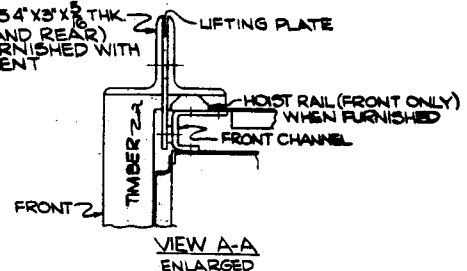
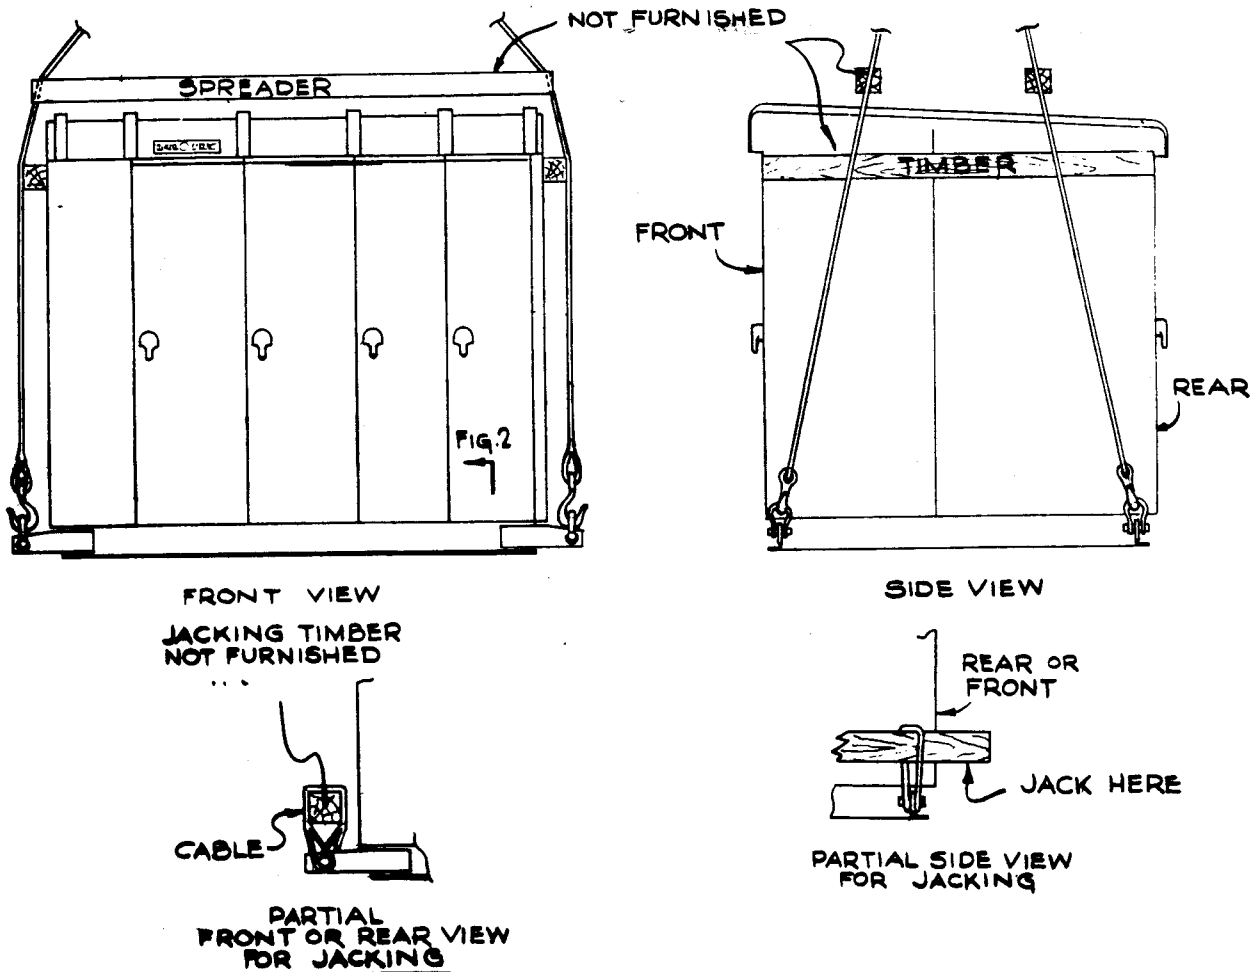

Fig. 9 (0673D0500-002-5) Methods Of Handling Indoor Equipment.
Fig. 10 (0673D0500-003-3) Methods Of Handling Outdoor Equipment.
The switchgear units, may be most conveniently handled by a crane. Removable lugs are provided on top of the switchgear. If the installer uses a crane for lifting a cable spreader must be used to obtain a vertical pull on the lifting lugs. Recommended lifting methods are shown in Figs. 9 and 10.
CAUTION: Be sure the rollers used are spaced such that the three channels rest on top of the rollers, as a direct application of the rollers between the channels may tear or distort the equipment. Jacks may also be applied to handle the equipment when a crane is not available, as shown in Figs. 9 and 10.
Methods of handling outdoor switchgear, shown in Fig. 10, are much the same as for indoor equipments except that lifting plates are provided at the base of the structure. The lifting plates should be removed after the equipment is permanently anchored, so that passageway at the ends of the equipment will not be obstructed.
2. The switchgear packages should be placed on its foundation with the aid of crane or jacks as shown in Fig. 9 for indoor equipment and Fig. 10 for outdoor equipment.